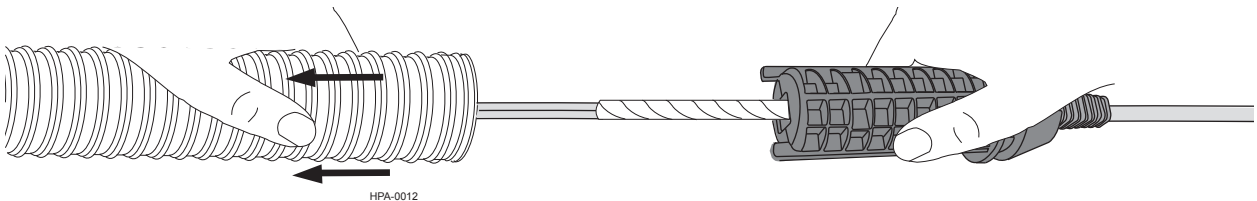

Figure 8 — Tubing Removal
**Step 5:** Slowly slide the tubing away from the coupler and its connector legs (Figure 8).